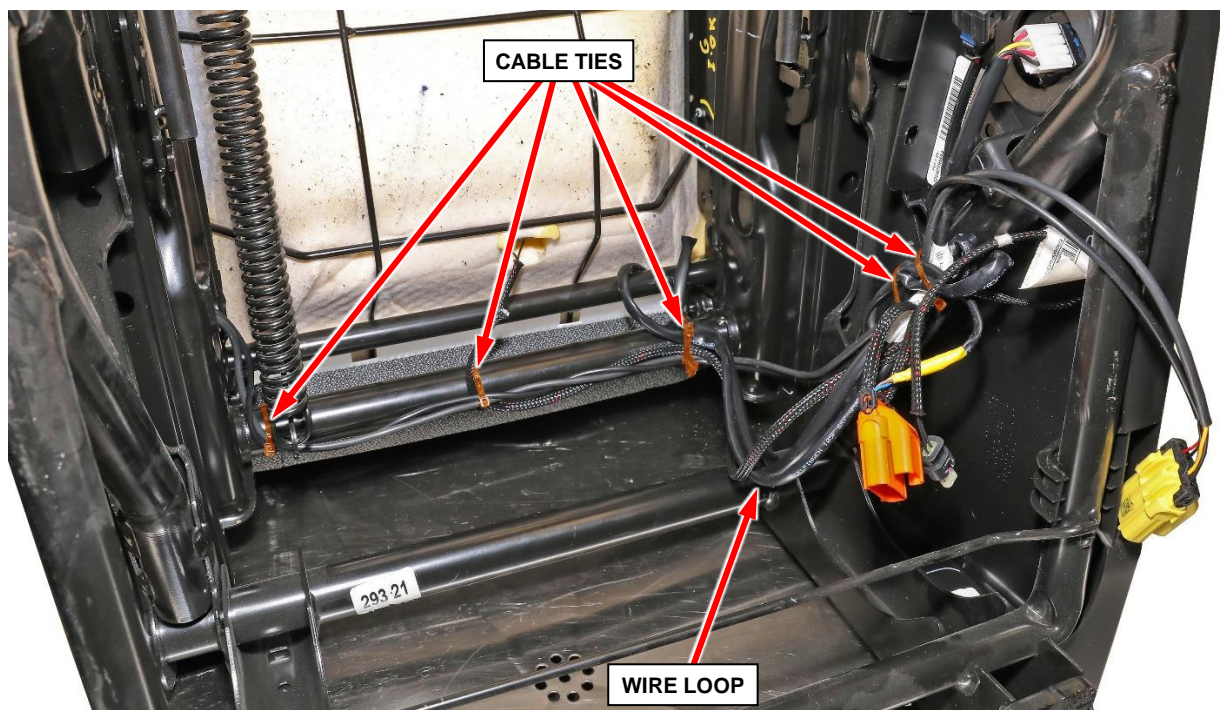

Figure 5 – Wire Harness Routing and Cable Ties
11. **Take note** of the location of tie straps securing the seat belt tensioner wire harness. Upon reassembly, replace the tie straps accordingly (Figure 5).
12. **Take note** of the seat belt tensioner wire harness routing. Upon reassembly wire harness will need to be routed the same way (Figure 5).
13. Cut the cable ties securing the seat belt tensioner wire harness (Figure 5).
21. Secure the seat belt tensioner wire harness with **NEW** cable ties, refer to (Figure 5).
NOTE: Wire loop is necessary for seat track movement, refer to (Figure 5).